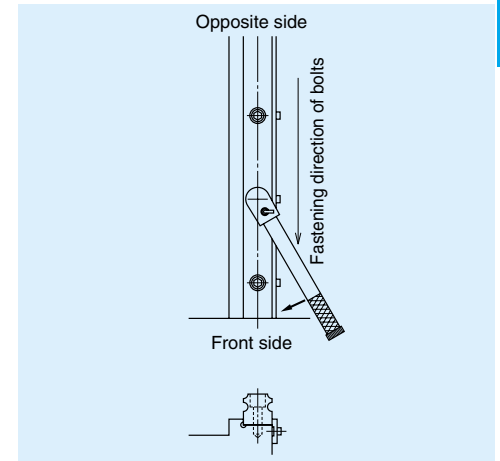

Fig. II-9-14 Rail installation
- ② For final tightening of the bolts to secure the rail, tighten the bolt on either end of the rail, then proceed to other end. If the datum face is on the left side as shown in Fig. II-9-14, tighten the bolt at the farthest end first, then proceed to near end.